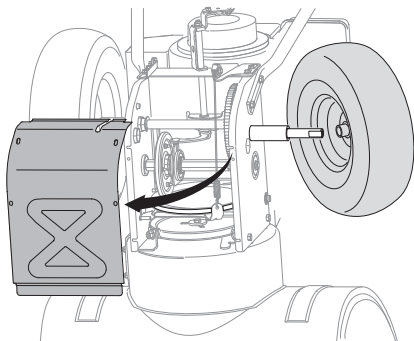

Figure 4-21
4. Remove frame cover from underside of unit by removing self-tapping screws which secure it. See Figure 4-4. Remove right-hand wheel by removing screw and bell washer which secure it to axle. See Figure 4-21.